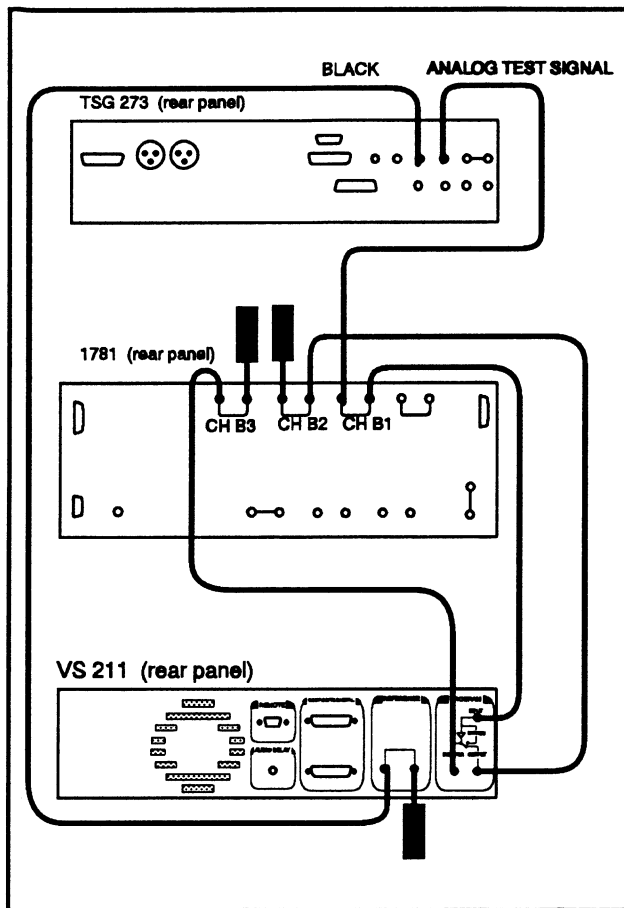

Fig. 4-13.
- a. Attach the TSG 273 directly to the waveform monitor (CH B1 input) and loop it through to the PROGRAM INPUT as shown in Fig. 4-13.
- a. Connect the test equipment as shown in Fig. 4-13.